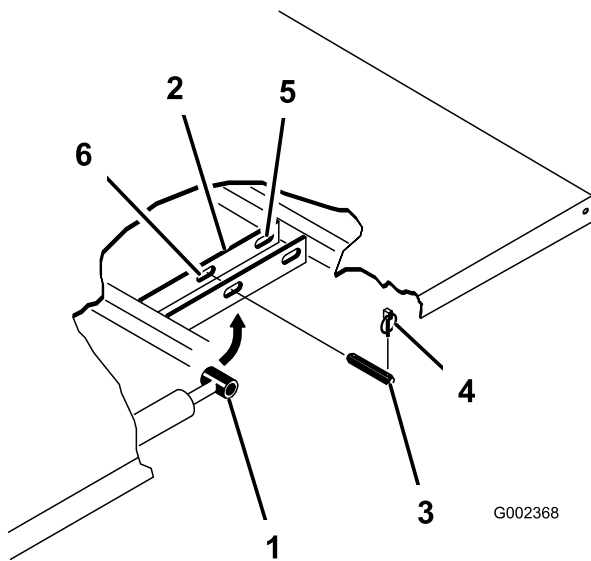

Figure 3
4. Remove the lynch pins from the outer ends of the cylinder rod clevis pins (Figure 3).
pins toward the centerline of the machine (Figure 3).